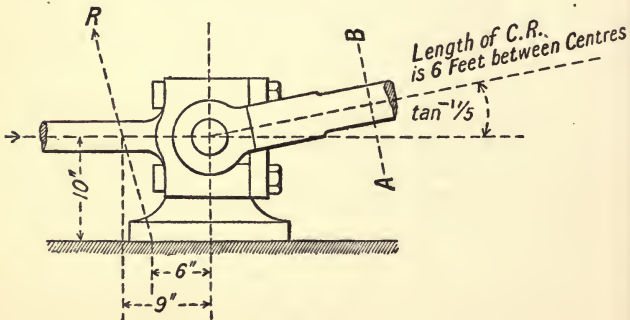

Fig. 8
8. Fig. 8 represents the cross-head of a steam engine. Owing to insufficient lubrication of the slide and pin, the reaction of the slide is displaced into the position shewn. The thrust in the piston-rod being axial and of magnitude 8 tons, determine the position and magnitude of the thrust on the section  $AB$  of the connecting rod taken 18 inches from the centre of the pin.